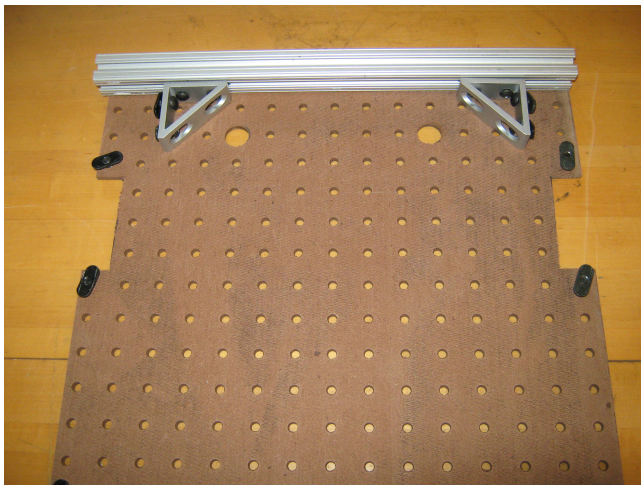

Figure 5: Slide 15" 80/20 and angle brackets onto front sliders. The placement of your sliders on the pegboard may look slightly different from that shown here.
4. Slide the 15" beam of 80/20 onto the two front sliders, as shown in Figure 5. Slide two of the angle brackets onto the 80/20, placed so that their hypotenuses are facing inwards.